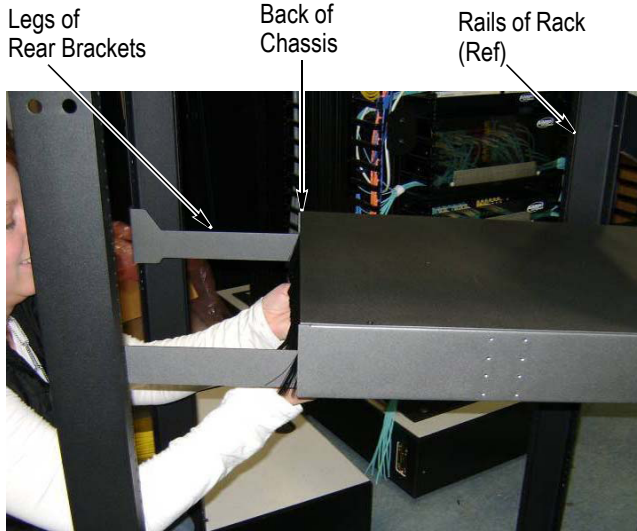

Figure 4
4. Align the back of the chassis with the back of the legs of the rear brackets. Slide the chassis through the rails of the rack or cabinet and onto the legs. Make sure that the legs enter the guide channels on each side of the inside of the chassis. See Figure 4.